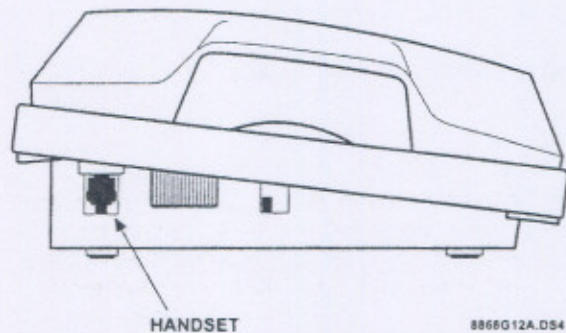

Figure 8. VuFone Handset Jack Location
- 1) Plug one end of the coiled handset wire into the modular jack on the handset and the other end into the modular jack labeled HANDSET on the VuFone left side (see Figure 8).